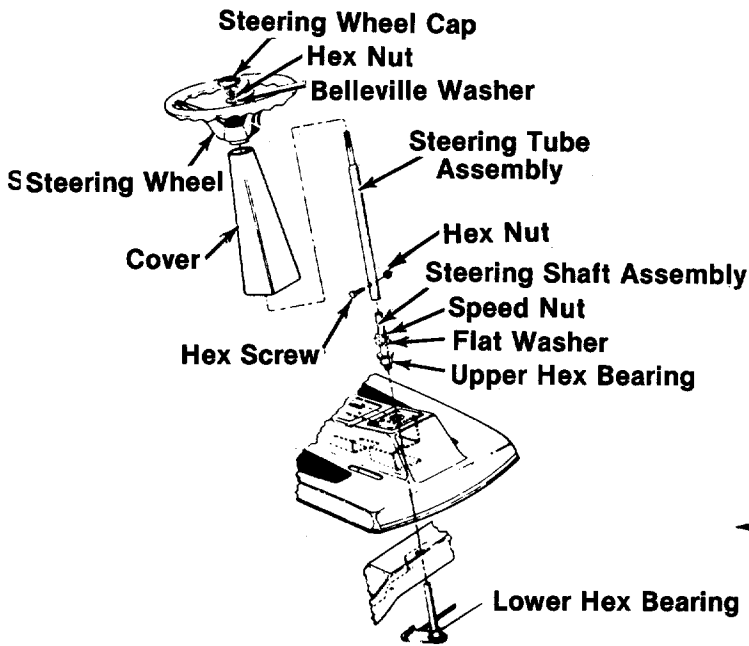

FIGURE 1. STEERING ASSEMBLY
← STEERING WHEEL ASSEMBLY (See figures 1, 2 and 3)
1. Check the upper and lower hex bearings. Be sure they are seated and in position. See figure 1.